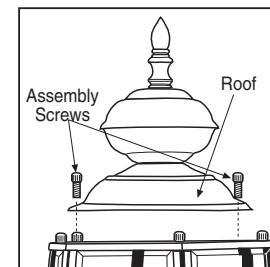

Figure 1
- For two screw and multiple screw assembly roofs, remove assembly screws on roof (or underneath roof) and insert bulb(s). Reattach roof. (see figures 1 or 2).